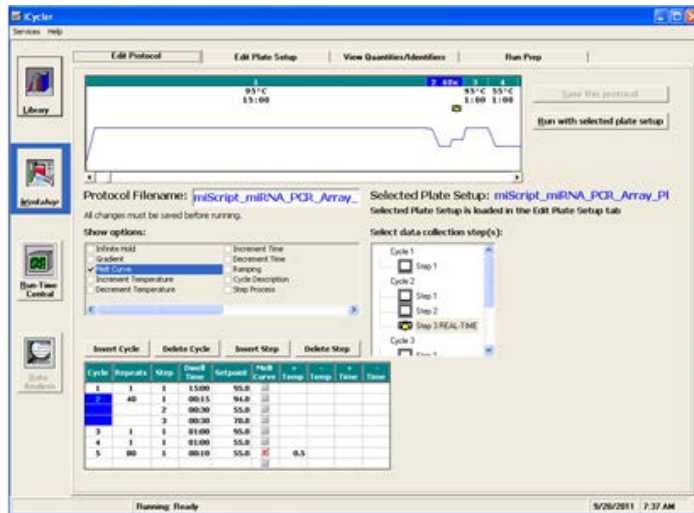

Figure 1. Protocol setup.
2. Click on the “Library” module on the left panel. Select the “View Protocol” tab. Under “Protocol Files,” select “2StepAmp+Melt.tmo.” Click “Edit This Protocol” on the right; this will open the “Edit Protocol” tab in the “Workshop” module. Edit the thermal profile in the table at the bottom of the screen as follows (see Fig 1):